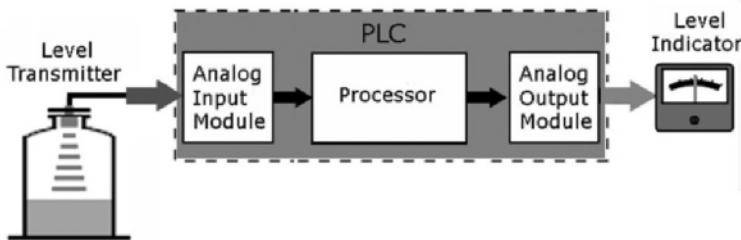

Figure 2-8 Block diagram for question 31.
31. For the block diagram of the analog PLC control shown in Figure 2-8, which part has a binary input and analog output value? 31. _____